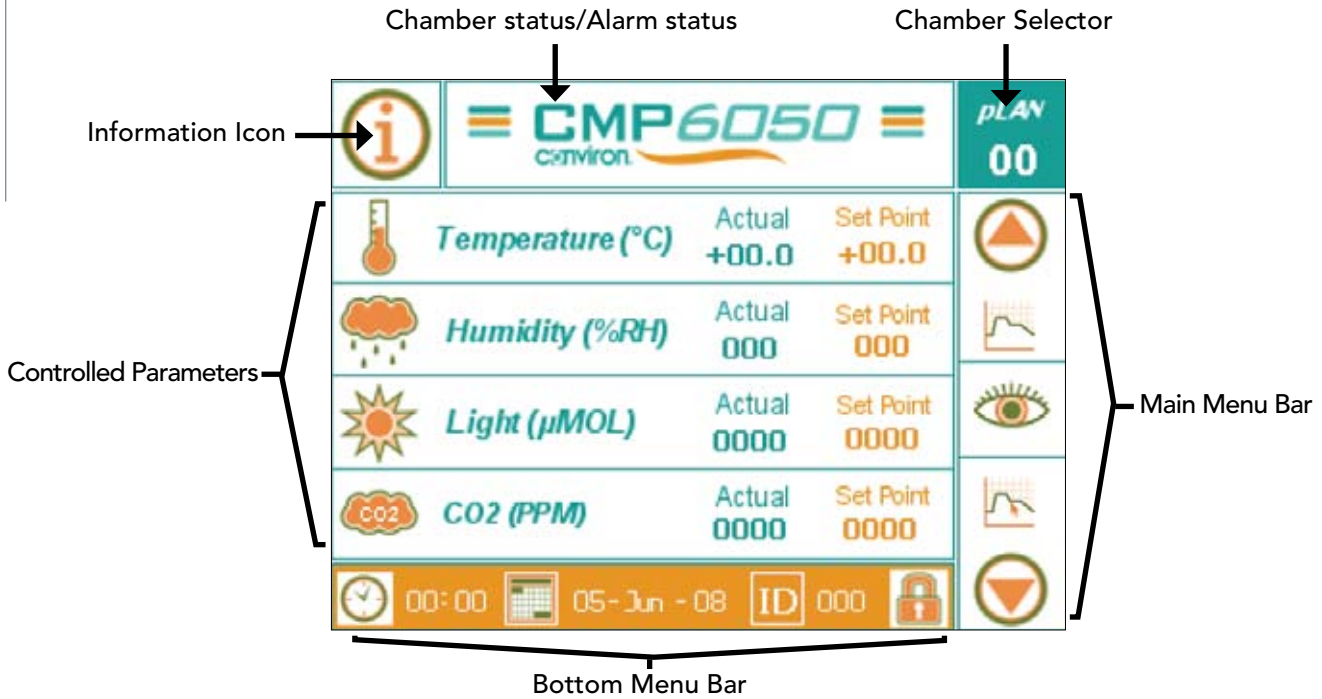

Figure 2-2: Main Status Screen
Once the desired chamber number has been selected, the main Status Screen is displayed. (Figure 2-2: Main Status Screen).
Figure 2-2: Main Status Screen illustrates the Bottom Menu Bar located along the bottom of the Status Screen. Although this Menu Bar presents for (4) functional Icons, at this stage of the controller set-up, it is only necessary to set up the proper Time and Date.